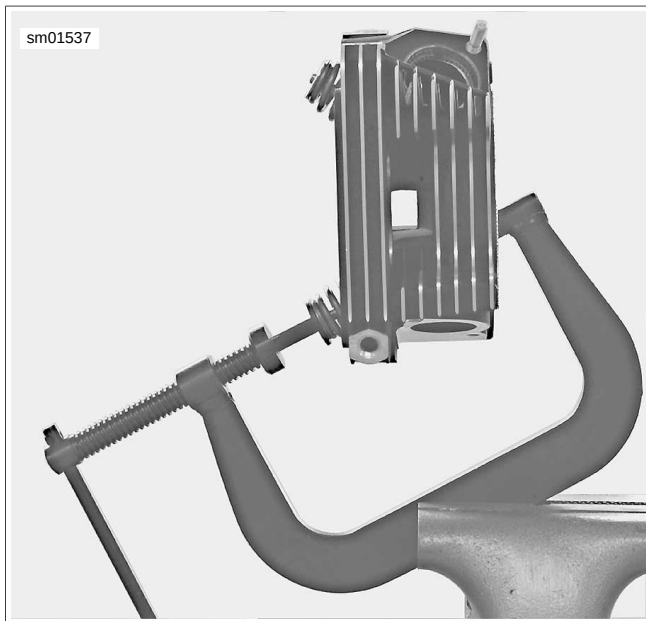

Figure 3-135. Compress Valve Spring with Valve Spring Compressor (Part No. HD-34736-B)
6. See Figure 3-135. Compress valve spring with VALVE SPRING COMPRESSOR (Part No. HD-34736-B).